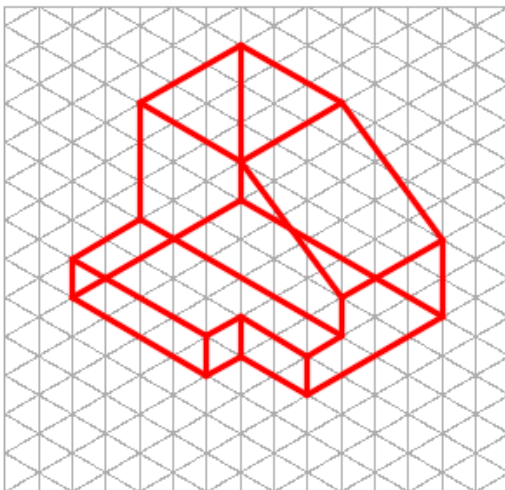

Figure Step 12A
Step 12 Trim and delete any unwanted lines to complete the isometric object: Object 7-1. The drawing should appear similar to figure. (Figure Step 12A and 12B)